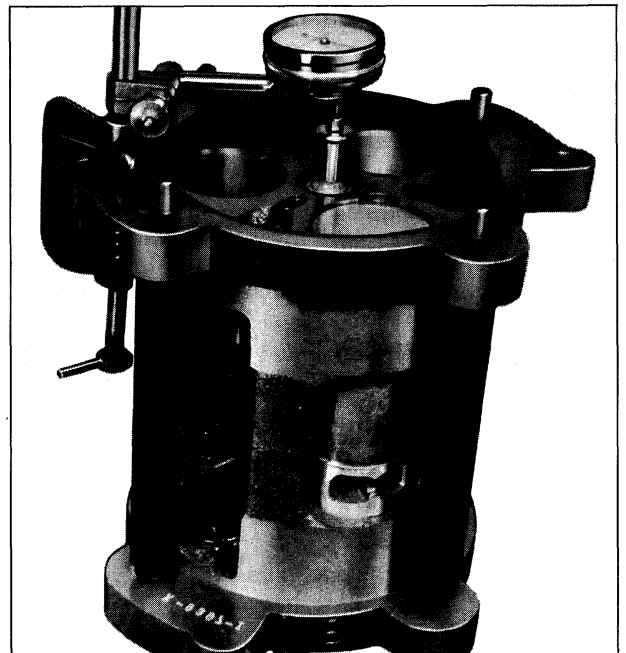

Fig. 5-26 Checking Compressor Mainshaft End Play
NOTE: A selection will be made from shoe packages shown in Fig. 5-26 which will provide a .0005" to .0010" total clearance between shoes and the swash plate at the tightest point throughout its
15. The next gauging operating is to determine space between REAR thrust bearing and upper or outer-rear thrust race. Check compressor shaft end play as follows (Fig. 5-26).